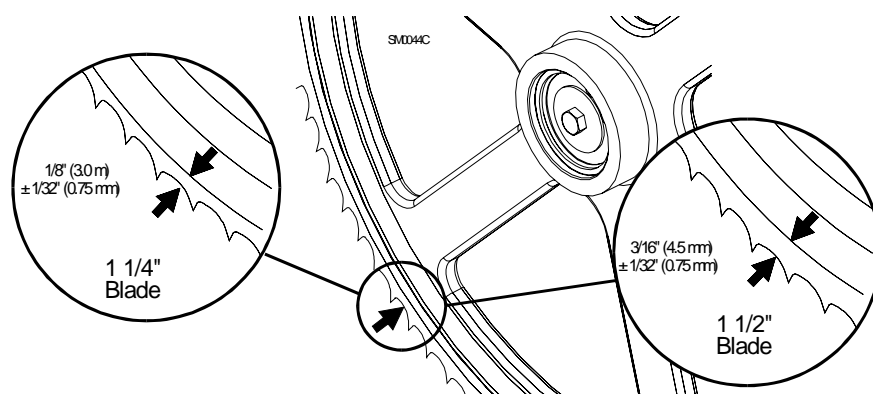

FIG. 2-4
**See Figure 2-4.** Position 1 1/4" wide blades so the gullet is 1/8" (3.0 mm) out from the edge of the blade wheel ( $\pm 1/32$  [.75 mm]). Position 1 1/2" blades so the gullet is 3/16" (4.5 mm) out from the edge of the blade wheel ( $\pm 1/32$  [.75 mm]).